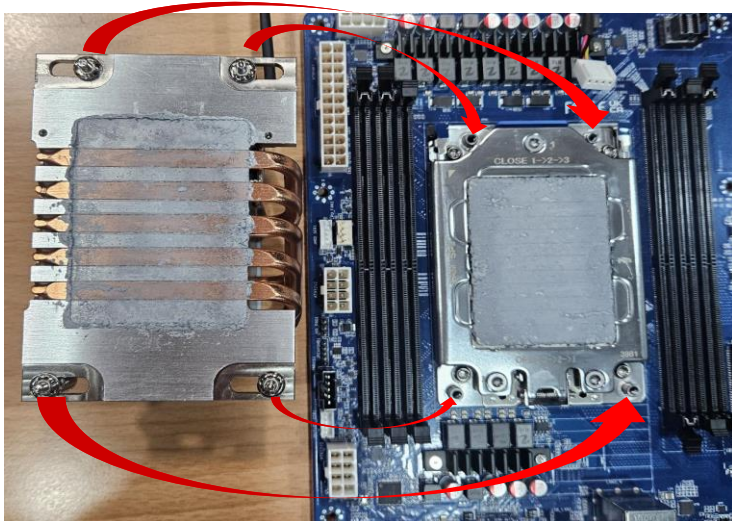

Figure 10
A. Align the CPU Cooler with 4 nuts on the Stiffener Frame. (Figure 10)